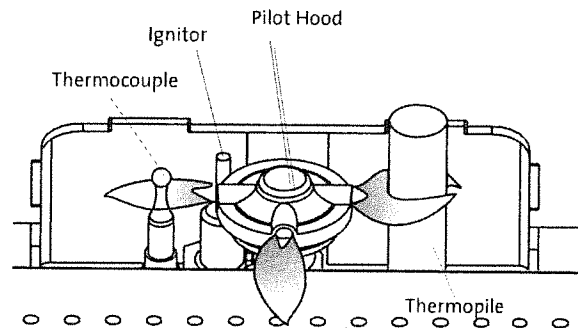

Figure 28. Correct Pilot flame pattern and Pilot Shutter location.
2. **PILOT FLAME:** The pilot flame should be steady, not lifting or floating. The flame should be blue in color around the pilot hood, with traces of yellow toward the outer edges. It is imperative that the pilot flame engulf the top 3/8" of the thermopile (power generator) and the top 1/8" of the quick drop-out thermocouple. The pilot flame should project out of the pilot hood 1" at all three ports, extending to reach the burner plate ports. See fig. 28.